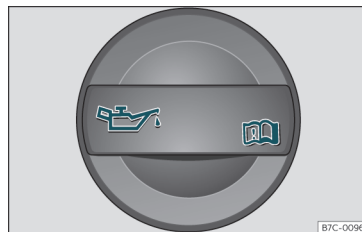

Fig. 203 In the engine compartment: Engine oil filler cap.
- Unscrew cap from engine oil filler opening »» **Fig. 203**.